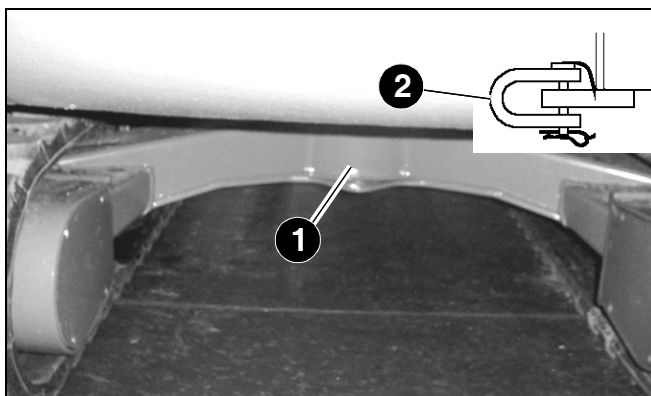

Figure 3-43 Towing
The excavator can be towed by using the towing bracket (1, Figure 3-43). Secure a towing shackle, shackle pin and lock (2) of adequate size to the towing bracket (1) as shown. Tow the machine slowly and only short distances.